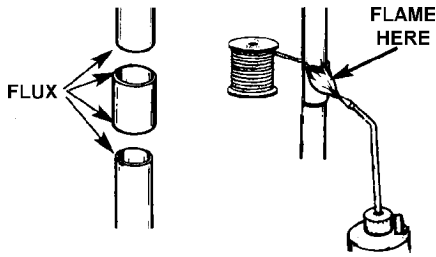

FIGURE 12
13. Flux the inside of the 90° elbow and the length of pipe to be run to an adequate drain, and solder them together, see Figure 12.